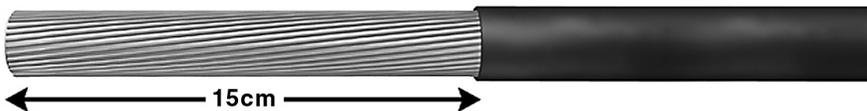

Figure 17.
- Remove the clear binder tape (2nd layer) for a length of 15cm from the end of the HVSC, this will expose the outer screen copper conductors as shown in Figure 17.